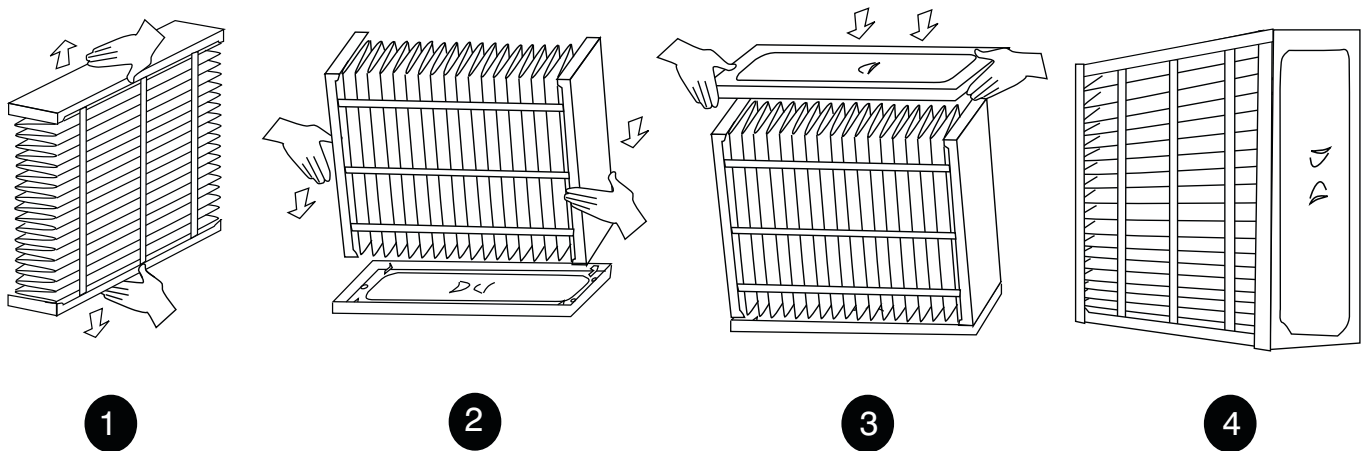

Fig. 8 – EZ-Flex Filter Assembly
7. Remove Filter from box, assemble then place in cabinet. See Fig. 8.
4. Remove new filter from box and assemble. See Fig. 8.